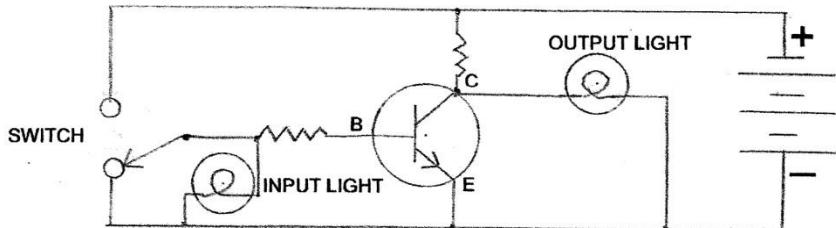
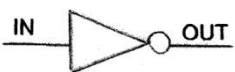

Figure 25. Transistor circuit
Figure 26. Inverter symbol
17. Inverter - When you flip the switch up on Figure 25, the input light comes on, indicating a "1", and the output light is off, indicating a "0". When you flip the switch down, the input light goes off, indicating a "0", and the output light turns on, indicating a "1". Figure 25 is an inverter and Figure 26 is the symbol for it.